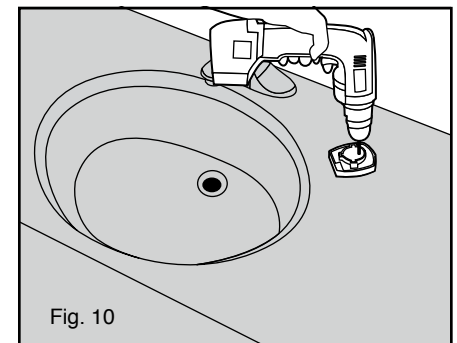

Fig. 10
11. **IMPORTANT** – Using a Phillips bit in a power driver, tighten at full speed the 2 screws on the support shaft until the plastic heads break away. Remove the remains of the white plastic heads from the support shaft (see figure 10).